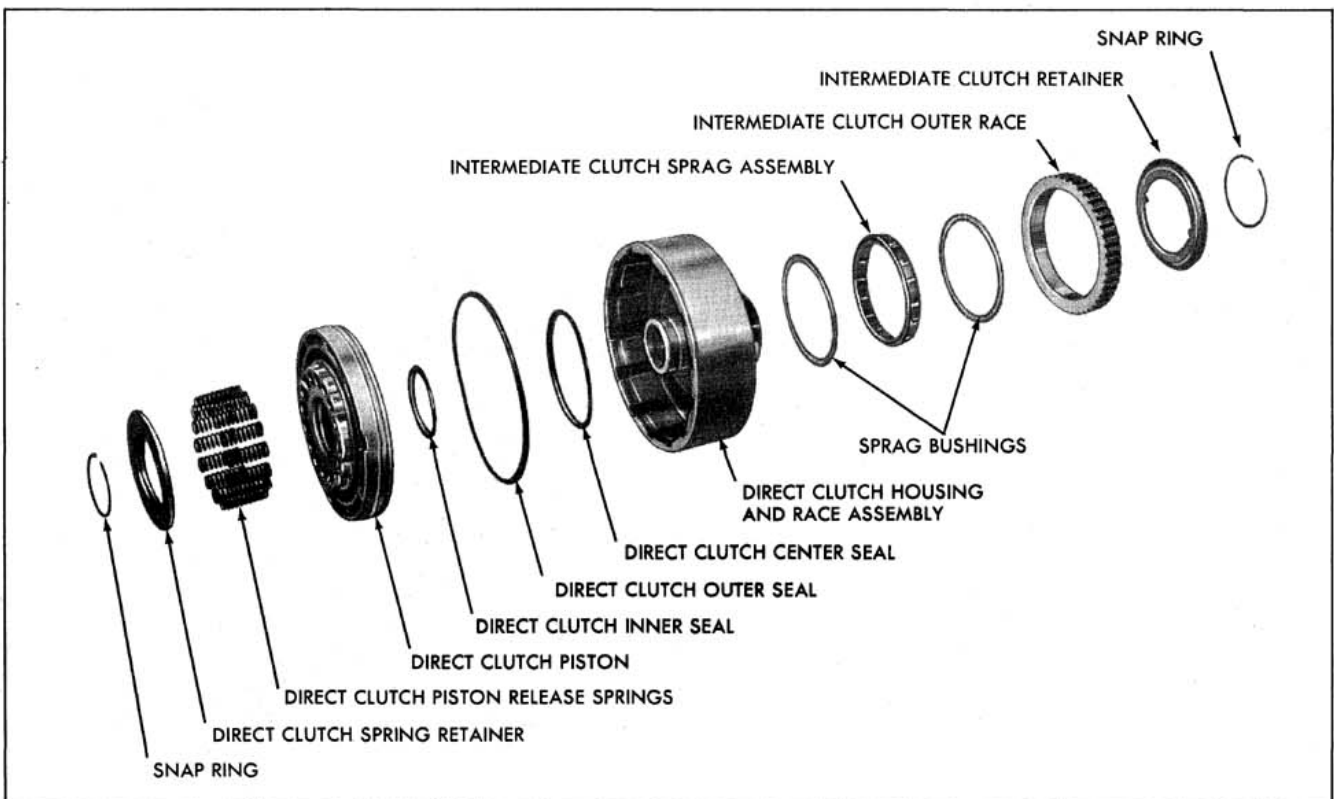

Fig. 6-159 Direct Clutch and Sprag Assembly
**Assembly (Figs. 6-159 and 6-160)**